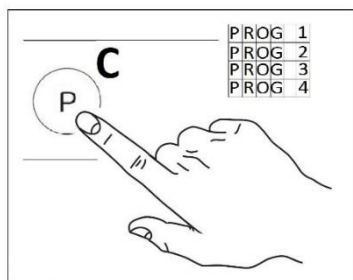

Fig.13
- 4- Press the button “C” and choose the desired program. (Fig.13)